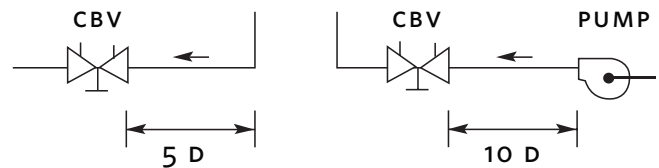

FIG. 1
- 3 To ensure accuracy of measurement Circuit Balancing Valves (cbv's) should be located at least five pipe diameters downstream from any fitting and at least ten pipe diameters downstream from a pump (as illustrated in **FIG. 1**).